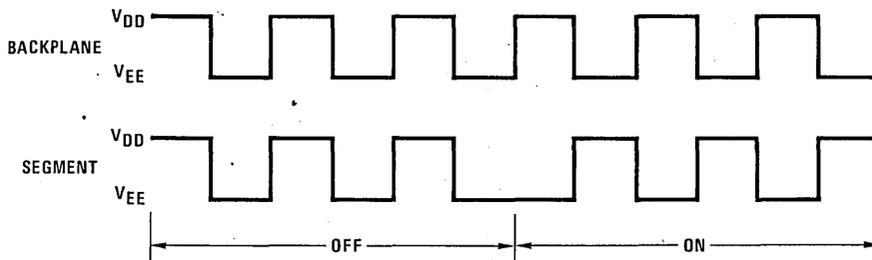

FIGURE 8. Phase Drive Signals
**Segment Outputs:** The Segment outputs are designed to drive field-effect liquid crystal displays. Each display segment has its own output which supplies the proper 32 Hz drive signal. By definition, the segment is "OFF" when its drive signal is in phase with the Back Plane drive signal (BP/32 Hz) and the segment is "ON" when the drive signal is 180° out of phase with the Back Plane drive signal (refer to *Figure 8*).